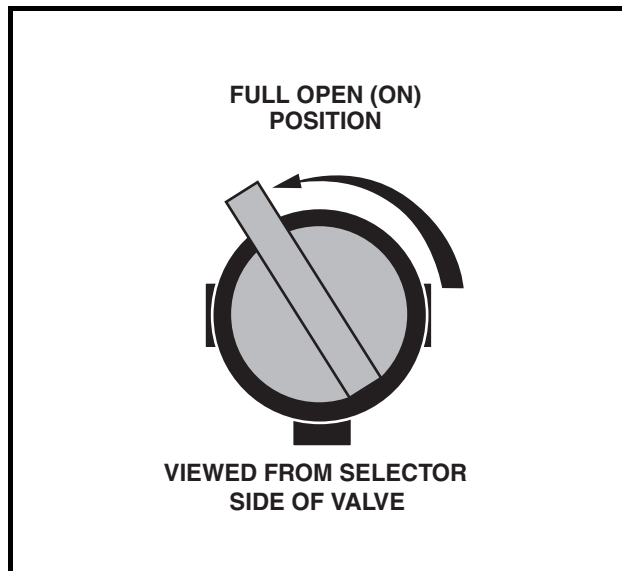
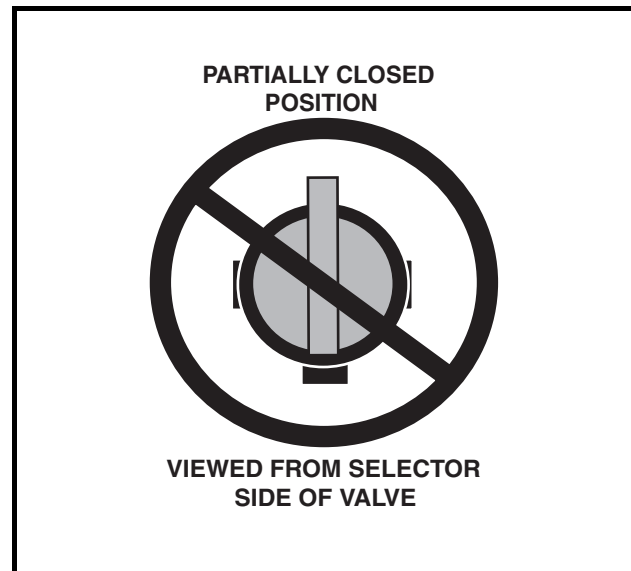

Figure 23 Fuel Shut-off Valve – Open Position
Figure 24 Fuel Shut-off Valve – Partially Closed Position
3. Completely open the fuel shut-off valve (**Figure 23**). Make sure the valve is fully open. A partially closed fuel shut-off valve (**Figure 24**) combined with the use of the choke can result in a fouled spark plug and engine failure.